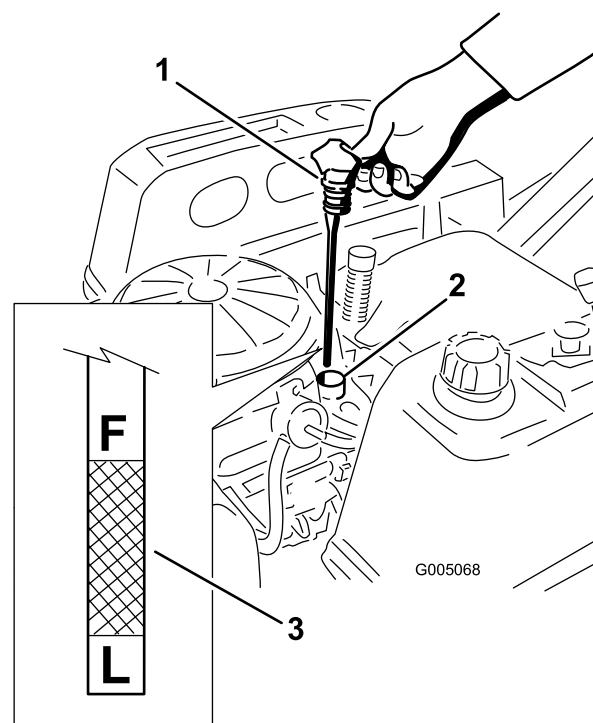
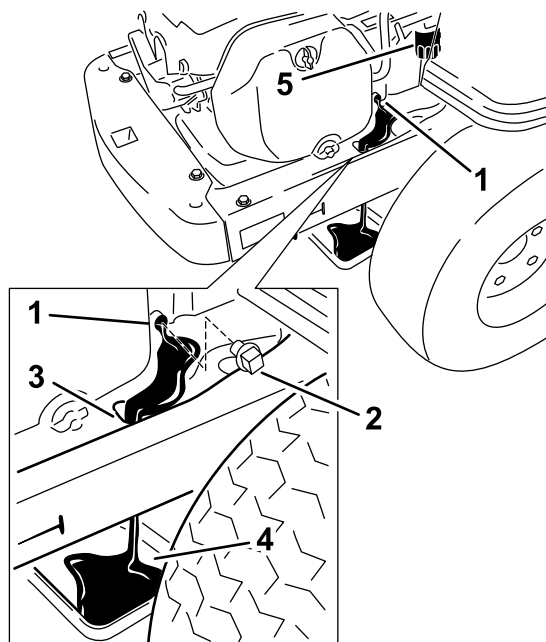

Figure 23
Figure 24
4. Pull and remove the oil fill cap/dipstick; wipe oil off. Reinsert the dipstick and push firmly into place (Figure 23).
5. Remove the dipstick and check the oil level. (Figure 23).
5. Clean the area around the drain plug and on the machine frame. Place a pan underneath machine directly below the drain hole in the frame as shown in Figure 24.
6. Remove the oil drain plug (Figure 24). Remove the oil fill cap/dipstick (Figure 23).
8. Remove the old filter and wipe off the mounting pad (Figure 24).
9. When oil has drained completely, install the oil drain plug. Tighten the plug to 14 N·m (125 in-lb) torque. Wipe up any excess oil on the frame (Figure 24).
13. Slowly pour approximately 80% of the specified oil into the filler tube (Figure 23).
14. Install the oil fill cap/dipstick and push firmly into place (Figure 23).
15. Check the oil level (Figure 23); refer to Checking the Oil Level.
17. Install the oil fill cap/dipstick and push firmly into place (Figure 23).